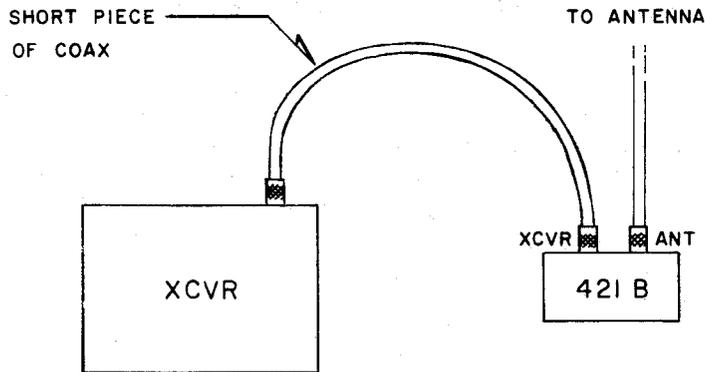

FIGURE 1.
- () Connect the power meter between the transceiver and antenna with the hook-up cable just made, as shown in Figure 1.